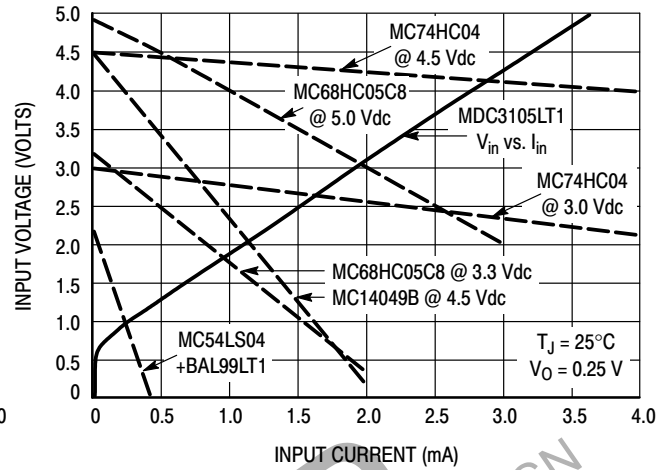

Figure 3. Input V-I Requirement Compared to Possible Source Logic Outputs
6. For levels of input current above $100\ \mu\text{A}$, enter Figure 3 using that max input current and determine the input voltage required to drive the MDC3105 from the solid V_{in} versus I_{in} line. Select a suitable drive source family from those whose dotted lines cross the solid input characteristic line to the right of the I_{in} , V_{in} point.